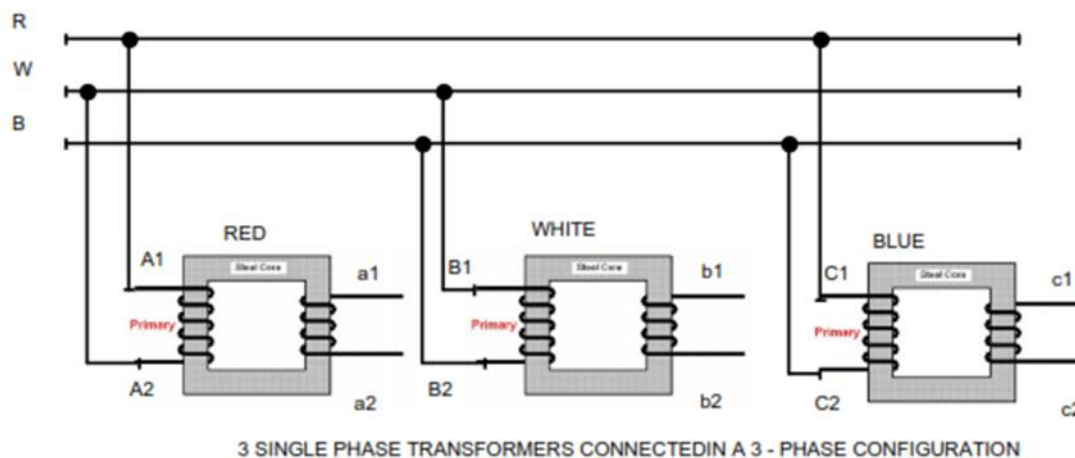
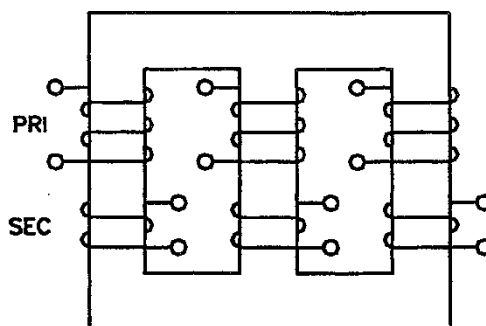

Figure 2 - Three single phase transformers connected in a three phase configuration.
Figure 3 - Three legs of equal cross section.
2. A three phase transformer can be obtained by using three identical single phase transformers (Figure 2), but in practice one common core is used with three identical sets of primary and secondary windings mounted on it (Figure 3).
3. Core Type Construction. Although similar in appearance to the single phase shell type, they differ in that each leg of the core is of equal cross sectional area (Figure 3). This is the most common type of core used for three phase transformers.